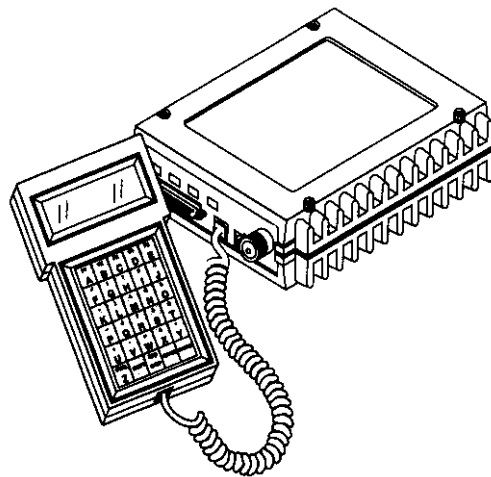

Figure 25. Hand-Held Terminal connected to the MDS 9810/24810
1. Connect the HHT's coiled cord to the DIAG(NOSTICS) (RJ-11) jack on the radio as shown in Figure 25. This automatically places the radio into the control and programming mode.